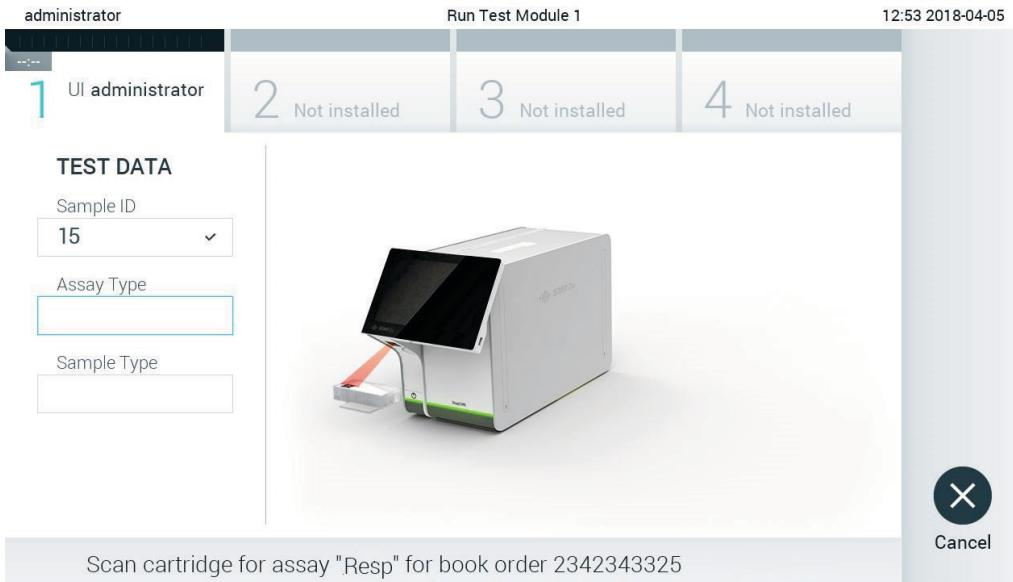

Figure 83. Scanning the QIAstat-Dx assay cartridge bar code.
4. When the test order has been successfully received from the host, “Scan cartridge for assay <assay_name> and book order <order_number>” is displayed. Scan the bar code of the specified QIAstat-Dx assay cartridge (Figure 83, next page).